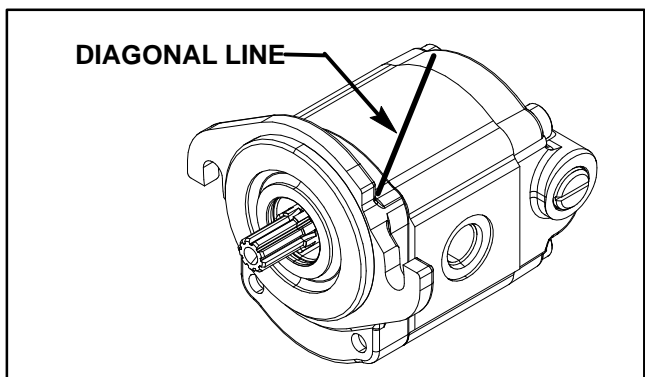

Figure 84
2. Use a marker to make a **diagonal** line across the front flange, body and rear cover for assembly purposes (Fig. 84).